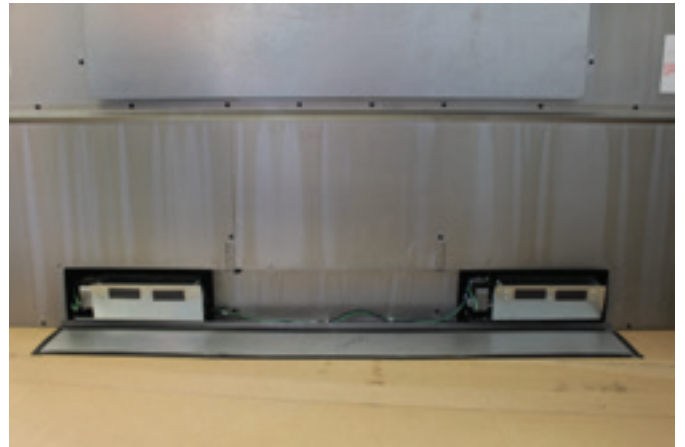

Figure 8
10. Make sure the blower base brackets are pulled rearward against the bottom flange of the fireplace. The magnets on the blower base bracket will keep the blowers in place. **See Figure 8.**